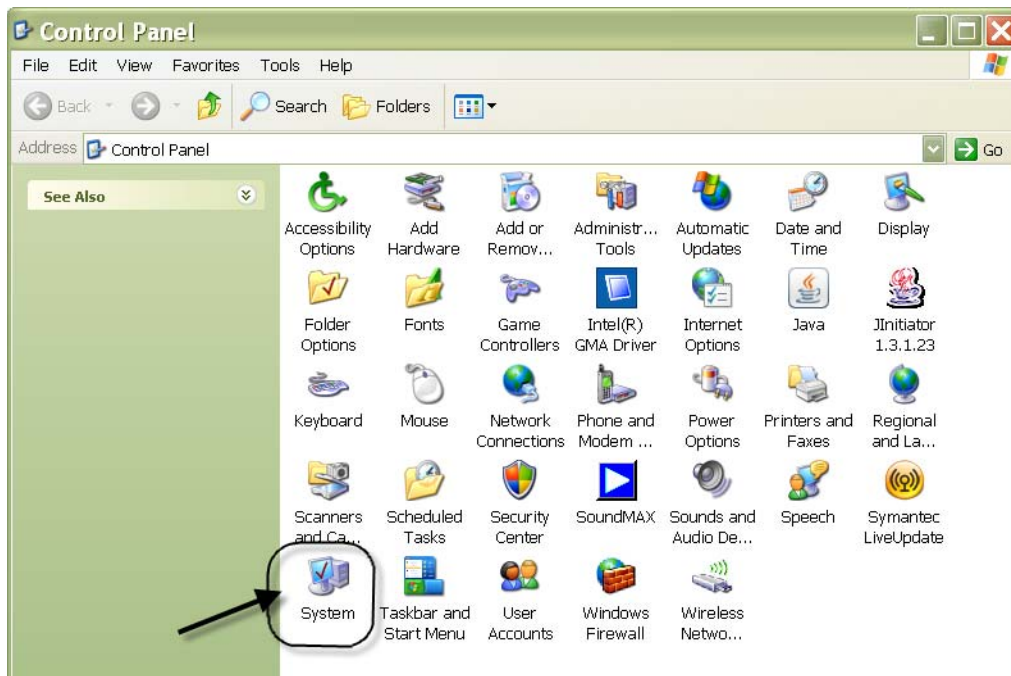

FIG. 208
2. The Control Panel is shown in FIG. 208.